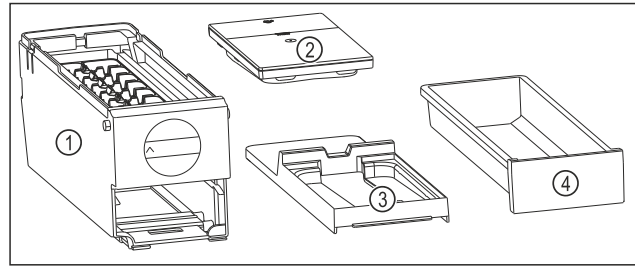

Fig. 70 Components of the EasyTwist-Ice
- ▷ EasyTwist-Ice is dismantled into four parts. (see Fig. 70)
- ▶ Only dismantle the EasyTwist-Ice into the components shown. (see Fig. 70)
- ▶ Clean the EasyTwist-Ice body Fig. 70 (1) as a whole.